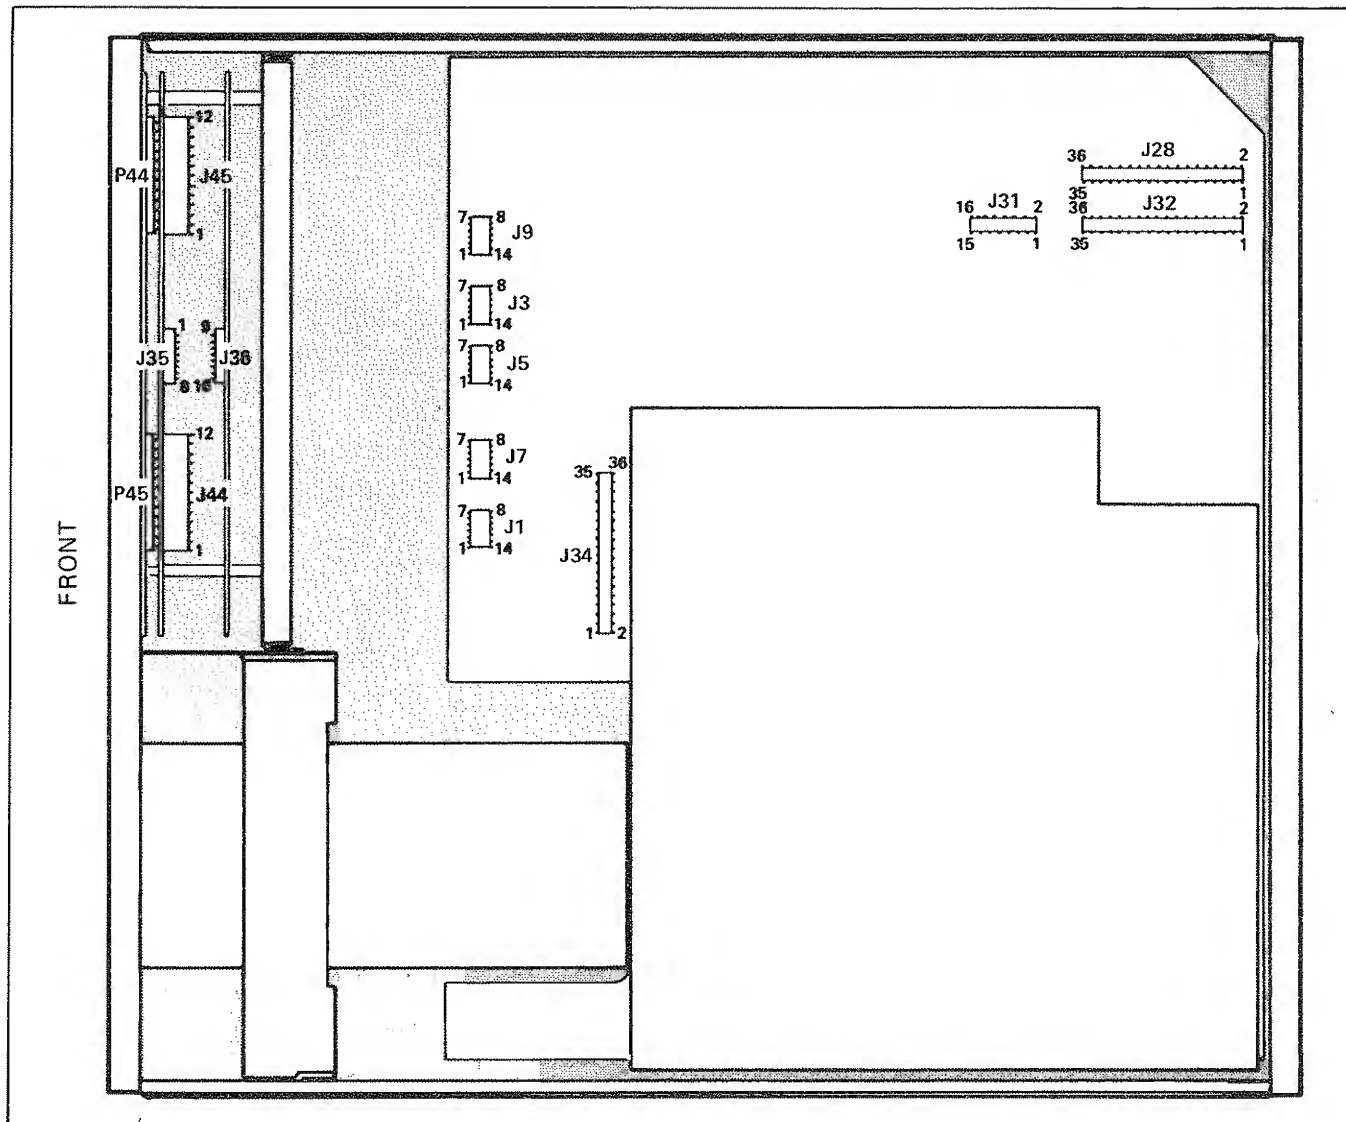

Figure 4-6. Measurement Point Locations for Troubleshooting (Bottom View)
3. All connectors referenced for measurement are accessible from the bottom of the 2240C when the bottom dust cover is removed. See Figure 4-6 for connector and pin identification.